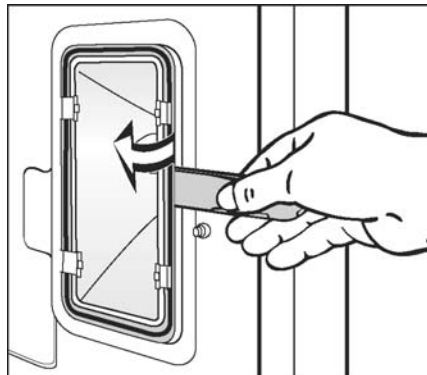

Figure 5-3: Prying The Light Cover Off
4. Carefully pry the light cover out of the metal frame (Figure 5-3).